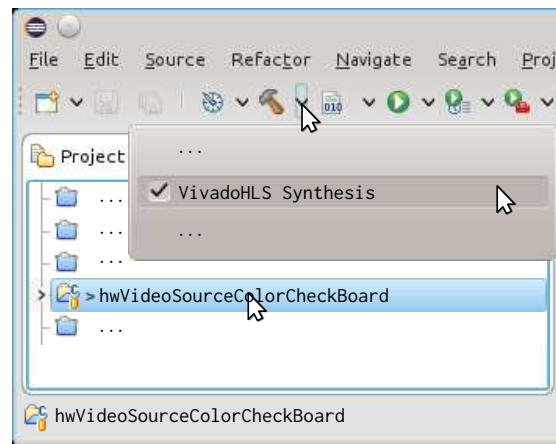
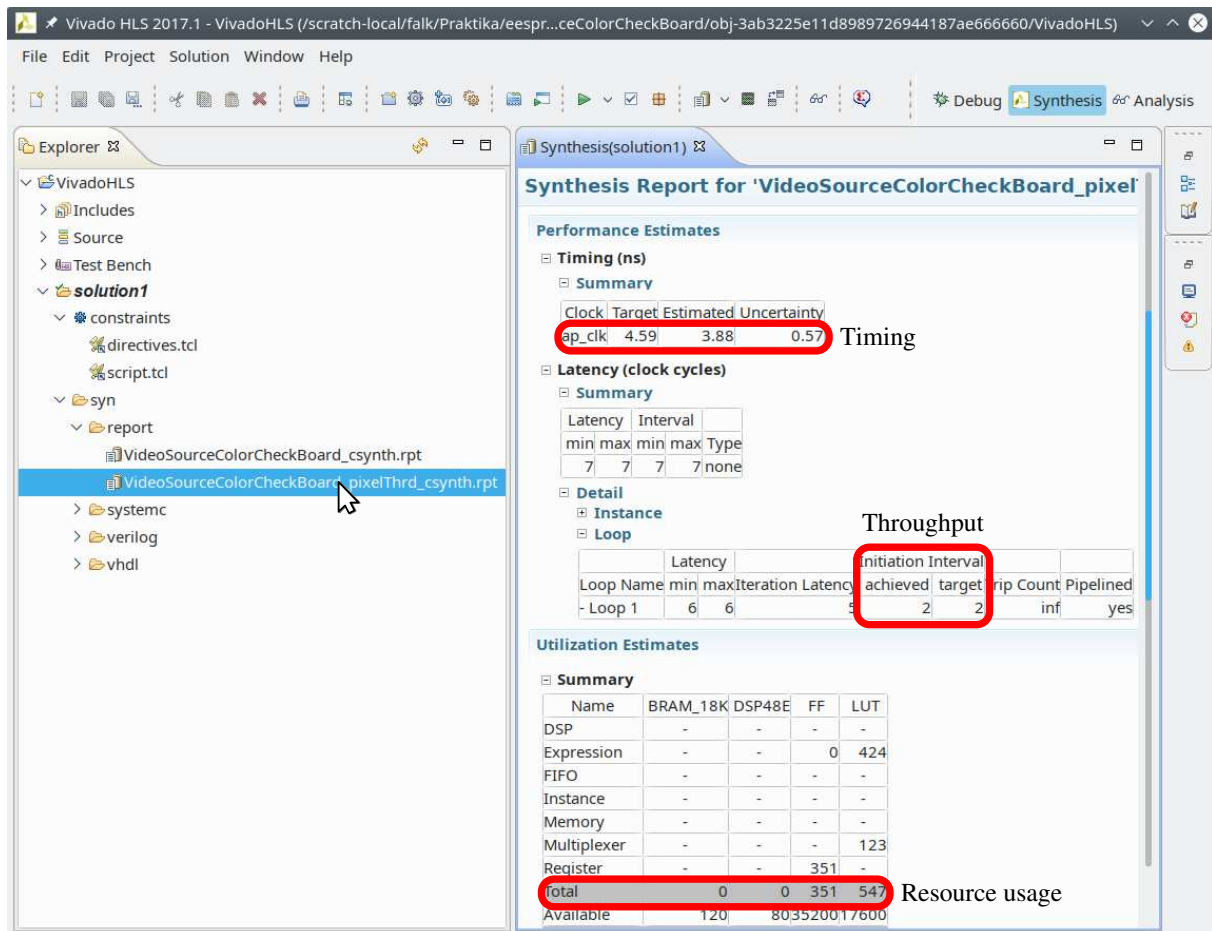
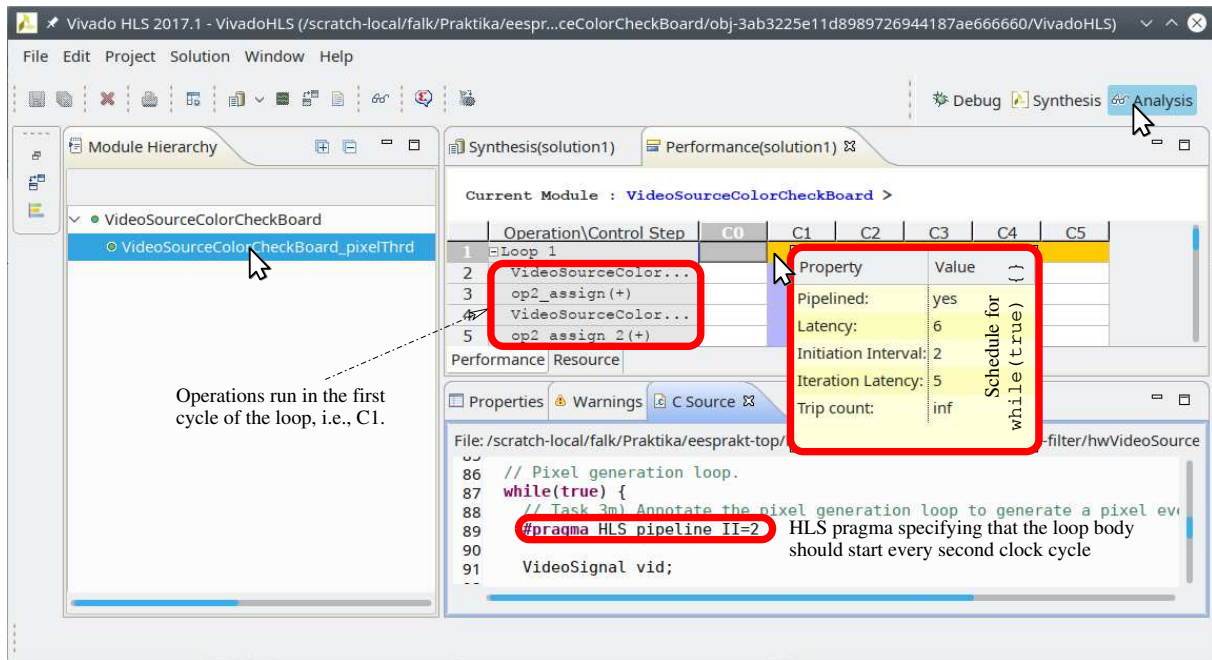

Figure 16: Starting VivadoHLS to synthesize the CCB into an IPB
Figure 17: Synthesis report for the CCB IPB
Figure 18: Examining the schedule of the while (true) { ... } loop in more detail
In contrast, the VideoSourceColorCeckBoard IPB is not initially present in the repository and will be generated using High Level Synthesis (HLS) from the VideoSourceColorCheckBoard SystemC module present in the hwVideoSourceColorCheckBoard project. For this purpose, the **VivadoHLS** tool from Xilinx is employed. You can start VivadoHLS for the CCB module by selecting VivadoHLS Synthesis in the compile menu as shown in Figure 16. This will start HLS and then open the VivadoHLS GUI (see Figure 17) so that you can examine the synthesis results in terms of obtained timing, resource usage, throughput, etc. In this process three steps will be performed as can be seen in the console windows of Eclipse. First, HLS is started with `vivado_hls -f VivadoHLS.tcl` producing the following output in the Eclipse console window:
After this, the VivadoHLS GUI will open. To see a report for the synthesis result of the `pixelThrd` process, you can open its report under **VivadoHLS** ▸ **solution1** ▸ **syn** ▸ **report** by double clicking on **VideoSourceColorCeckBoard_pixelThrd_csynth.rpt**. This should display the *synthesis report* shown in the right half of Figure 17. There, three things are highlighted in red: (i) the Timing that indicates an estimation of VivadoHLS how fast the IPB can be clocked, e.g., here with a frequency of $\frac{1}{3.88ns}$, (ii) how many resources the IPB requires, e.g., here 351 Flip Flops (FFs) and 547 Look-Up Tables (LUTs), and (iii) the throughput of the loops in a process, e.g., here the sole `while (true) { ... }` loop achieving an Initiation Interval (II) of two clock cycles, i.e., the loop body is started every second clock cycle.
A more detailed look into the schedule of the `pixelThrd` process can be taken by opening the *analysis* perspective by clicking **Analysis** on the toolbar (see Figure 18) and selecting **VideoSourceColorCeckBoard_pixelThrd** in the *module hierarchy* opening the *Performance(solution1)* tab where the schedule of the `pixelThrd` process is depicted. There are five clock cycles depicted in the schedule *C0* to *C5*. What operation are run in what cycle can be examined in the *Operation\Control Step* column of the *Performance(solution1)* tab. The schedule of the `while (true) { ... }` loop is depicted in orange from clock cycle *C1* to *C5*. Hovering the mouse over this orange bar will trigger a pop-up with an overview of the scheduling of the loop. There, you will see the same details for the `while (true) { ... }` loop (**Loop1**) you found under **Detail** ▸ **Loop** ▸ **Loop1** in the *synthesis report* shown in the right half of Figure 17. To exemplify, the `while (true) { ... }` loop will start at every second clock cycle (II is two clock cycles) and that the loop body takes five clock cycles to complete (iteration latency is five clock cycles). Thus, executions of the loop will overlap, i.e., the loop is *pipelined*. How the loop is scheduled by VivadoHLS is controlled by *pragmas*, e.g., the `pragma #pragma HLS pipeline II=2` in the first line of the body of the `while (true) { ... }` loop instructs VivadoHLS to find a schedule of the loop where an execution of the loop body starts at every second clock cycle. **Note that VivadoHLS might not find such a schedule and, thus, you have to check if the instructions to VivadoHLS for the scheduling of loop have been satisfied for your designs.** An overview of all VivadoHLS pragmas can be found in `~/03_filter/documentation/ug1253-sdx-pragma-reference.pdf` in chapter **HLS Pragmas**.
To start, open a console and type `vivado`. Then, select the *workspace-vivado-filter.xpr* project file by following the steps in Figure 19. When opened, you can see that two block designs `ccb` and `sobel` (marked red in Figure 20) have been prepared for you as examples. However, both block designs are still disabled. We will first generate the bit file for the `ccb` block design. Thus, enable the block design by following the steps depicted in Figure 20. Next, open the *IP catalog* view in Vivado by clicking on **Window** ▸ **IP Catalog** as shown in Figure 21. This should result in a view similar to the one in Figure 22. There, you can see the two *user IP repositories* (marked with a red box) as well as the *Vivado IP repository* containing IPBs from Xilinx that are shipped with Vivado. To notify Vivado the new IPBs might have appeared in the user IP repositories, you have to refresh the repositories as indicated in Figure 22. Next, open the `ccb` block design (see Figure 23) and run **Tools** ▸ **Report** ▸ **Report IP Status** as shown in Figure 24 to instruct Vivado to check if newer version of IPBs are available for the `ccb` block design. The result of this check is depicted in Figure 25. As can be seen, there is indeed a newer version of the `VideoSourceColorCheckBoard` present, i.e., the one you created via the HLS you started in Figure 16. The version of this IPB (in the red box) is determined from the date and time the HLS finished creating the IPB, e.g., the new IPB as depicted in Figure 25 has been created on the 21.3.2019 at 15:45 o'clock. Thus, you can check the version of IPBs used in a block design to determine if this block design already contains the latest changes you made to the SystemC sources of the IPB. To upgrade to this new version, check mark the IPB and click the **Upgrade Selected** button as depicted in Figure 25.